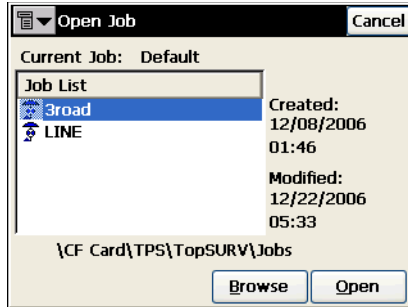

Figure 3-2. Open Job
- Select the job to open (Figure 3-2). Initially, a default job displays. Tap the **Open** button.